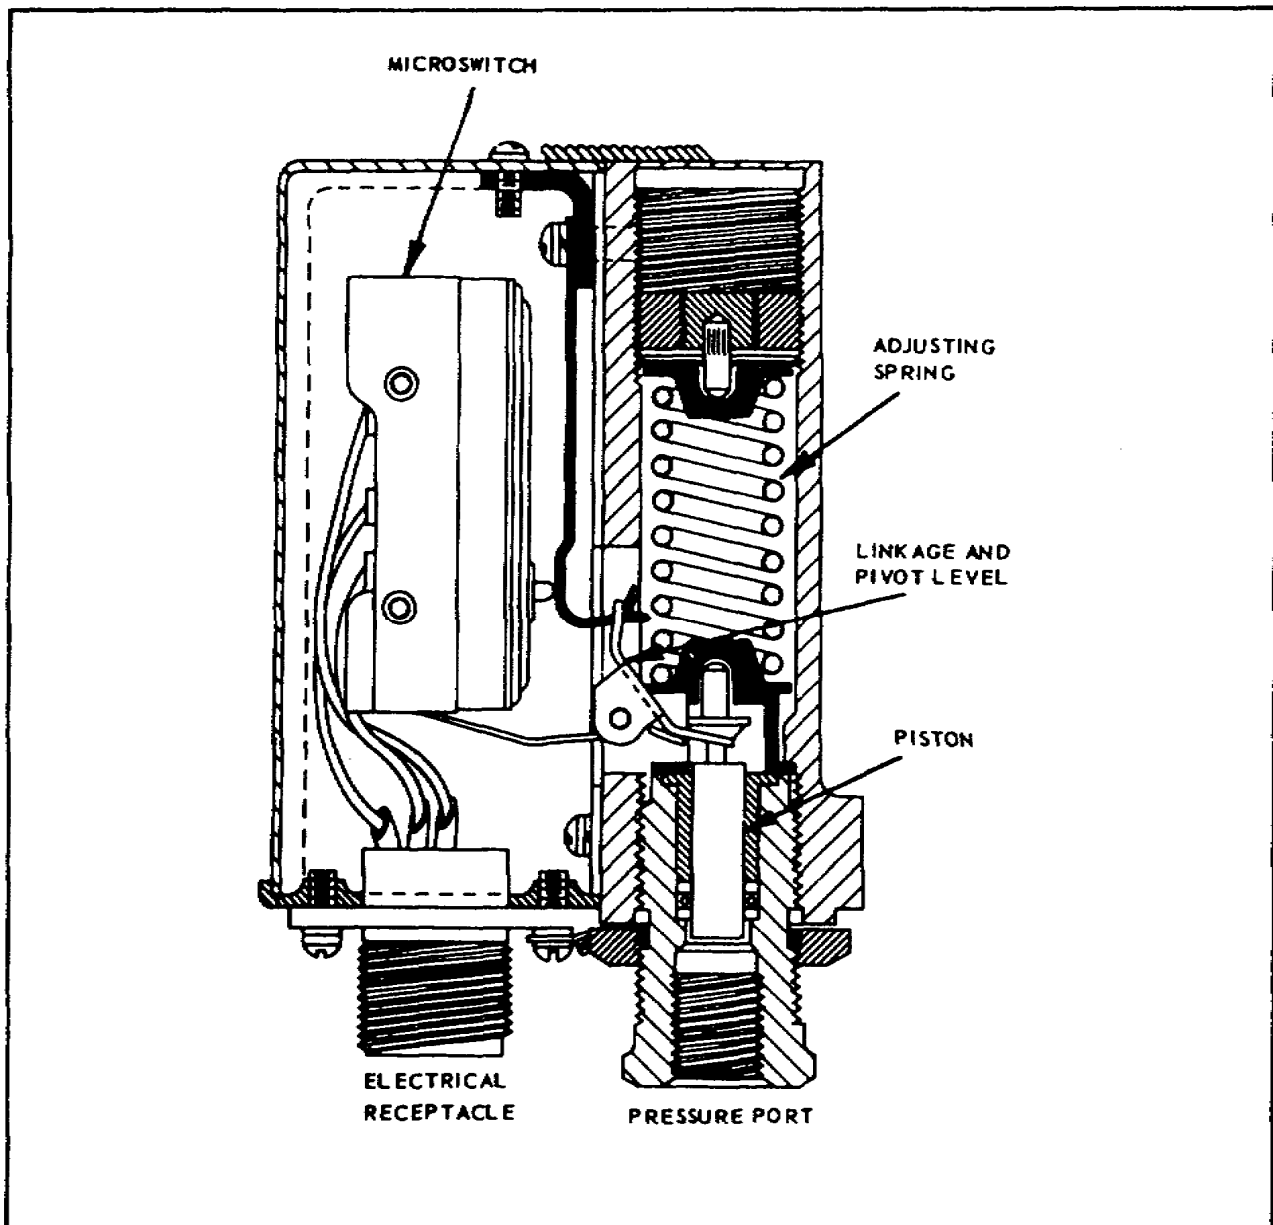

Figure 3-3. Piston Pressure Switch.
**Piston Pressure Switch.** The piston pressure switch (Figure 3-3) consists of a housing, a cylinder bore and piston, an adjustable spring for loading the piston, a microswitch and linkage for transmitting movements of the piston to the microswitch. The housing has a pressure port for connection to system pressure and an electrical receptacle for connecting the switch to an electrical circuit.